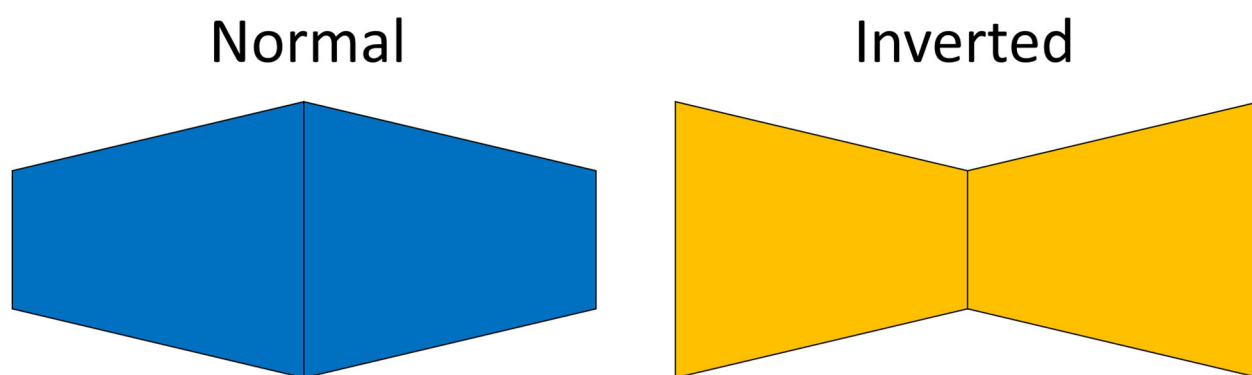
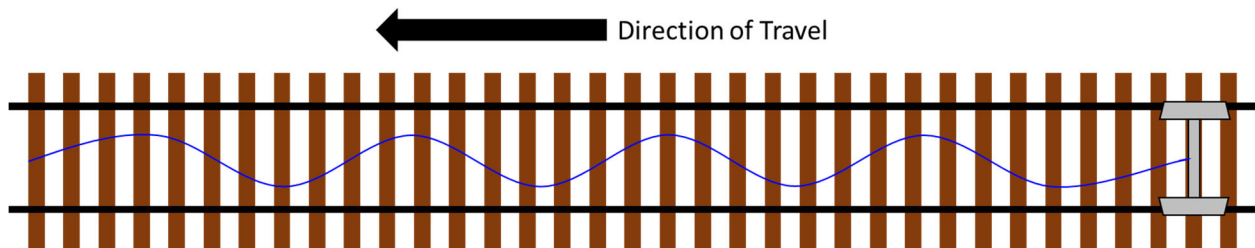

Figure 6: Wheelset configurations
Figure 8: The (exaggerated) path of a railroad wheelset due to Klingel motion.
17. For setups using only the cups with PVC pipe and popsicle stick track, the demonstration will consist of the two wheelset configurations shown in Figure 6 below. A third shape that can be tested is a simple cylinder which can be represented to by an empty paper towel roll. These three shapes correspond to the first three shapes on the worksheet. Ask the students to predict which wheelset(s) will derail on both the tangent and curved track.
19. Explain that the normal configuration shown in Figure 6 can shift to match the radius of the “wheel” to the length of the “rail” that it is riding on in a curve. However, this leads to a back-and-forth motion while it travels down straight tangent track. This sinuous motion, called Klingel motion (Figure 8), is the result of the wheelset constantly trying to correct itself to the middle of the track, overcorrecting, and trying to re-correct again. This is a *stable equilibrium* because the wheelset will try to bring itself back to the middle of the track (the equilibrium state).